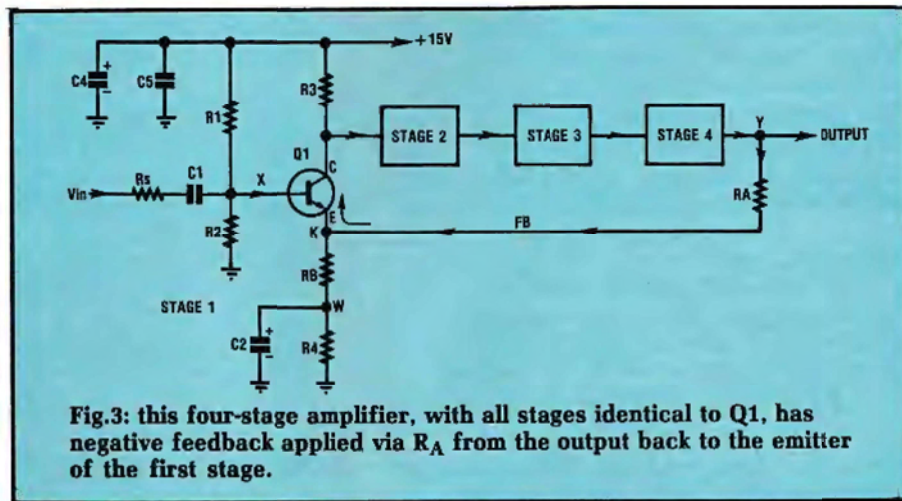
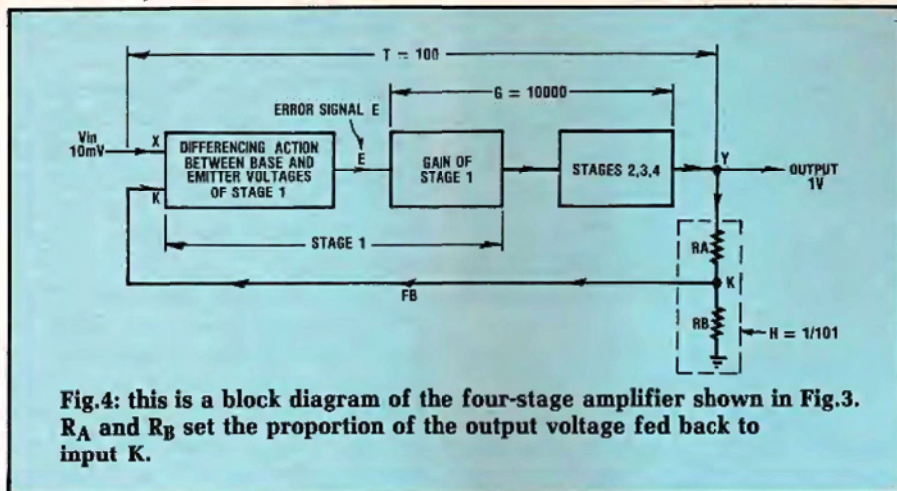

Fig.3: this four-stage amplifier, with all stages identical to Q1, has negative feedback applied via R_A from the output back to the emitter of the first stage.
Fig.4: this is a block diagram of the four-stage amplifier shown in Fig.3. R_A and R_B set the proportion of the output voltage fed back to input K.
Fig.3 shows the outline of a four-stage amplifier where Q1 and its sundry components form stage 1. Each stage is inverting, meaning that positive-going inputs produce negative-going outputs, but four stages of phase-inversion result in overall non-inversion; ie positive-going signals at X result in a positive-going output at Y.
In previous episodes we showed some negative feedback block diagrams. Now in Fig.3 we show one possible way to actually apply the feedback voltage from the output back to the input stage. Input signals from the voltage source applied at X naturally increase the output voltage.
As you probably know, a positive-going signal at X causes an increase in Q1's collector current, which in turn produces greater voltage drop across R_3 , hence greater stage output at the collector. In Fig.3, resistors R_A and R_B form a voltage divider across the stage 4 output, from Y to ground.
(4). The fraction of output used as feedback is called "H" In Fig.3, $H = \frac{R_B}{R_A + R_B}$.
Fig.4 is a block diagram of the circuit of Fig.3. In Fig.4 we have split the action of the first stage Q1 into its two functions:
Also we have labelled Fig.4 to point up three facts:
Keeping the same amplifier circuit, we redraw Fig.3 and Fig.4, grouping parts of similar function, giving us the simpler Fig.5, where we have written a possible set of conditions; ie resistances of RA and RB, together with gains, and voltages which might be measured